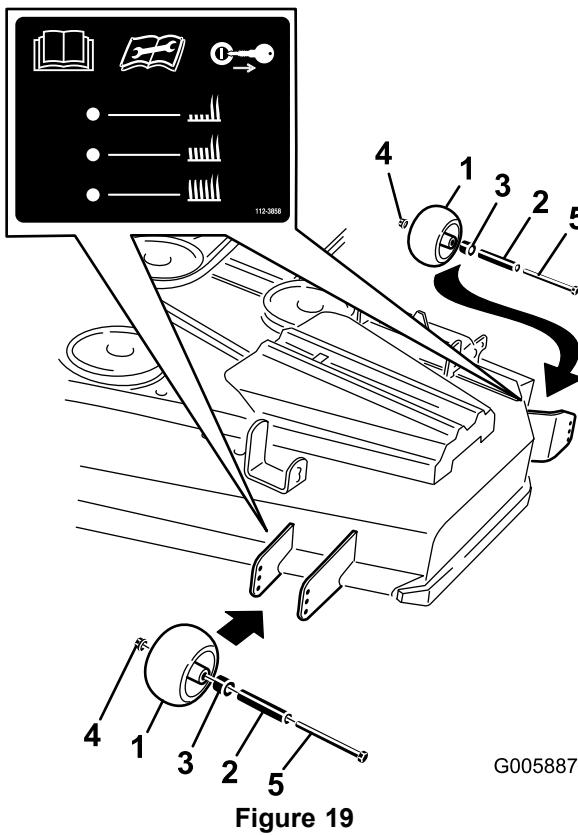
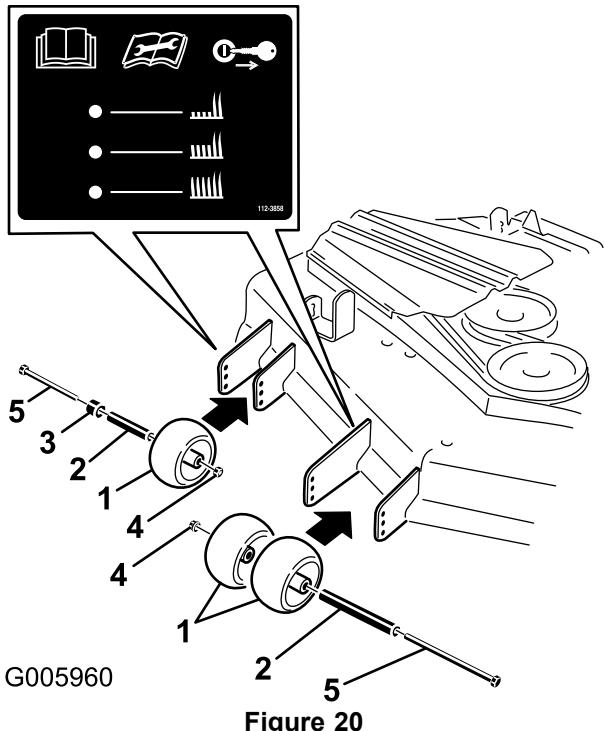

Figure 19
Figure 20
3. After adjusting the height-of-cut, adjust the rollers by removing the flange nut, bushing, spacer, and bolt (Figure 19 or Figure 20).
- Note:** The two middle rollers will not have a spacer (Figure 19 or Figure 20).
5. Install the flange nut, bushing, spacer, and bolt. Torque to 40-45 ft-lb (54-61 N-m) (Figure 19 or Figure 20).